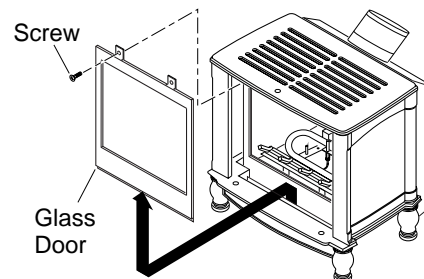

Figure 50 - Removing Glass Door from Burner System Insert
3. Grasp door by both sides and ease it upward off of the lower bracket (see Figure 50).